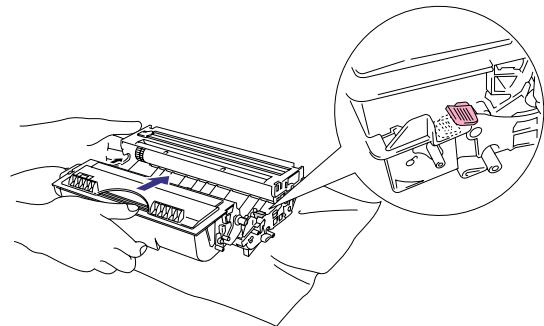

Fig. 5-2
- (4) Install the toner cartridge into the new drum unit until it locks into place, indicated by a click. When the toner cartridge is installed correctly, the lock lever is lifted automatically. (Fig. 5-2)
- (5) Install the new drum unit into the printer. **Check that the printer is turned on, the front cover is open and the Drum and Alarm LEDs illuminate.**